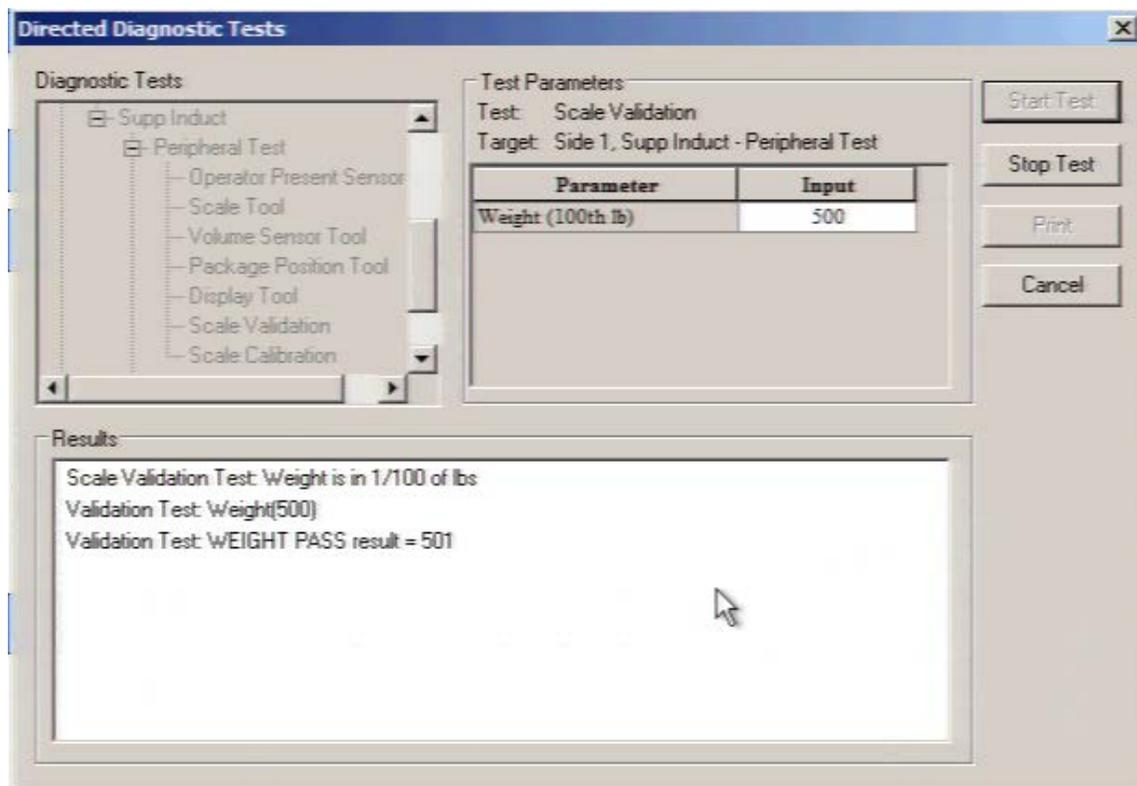

Figure 2-5. Scale Validation Result Messages
- At the SMS, review the Scale Calibration test results (Figure 2-5). The results will indicate **Validation weight PASS** or **FAIL**.